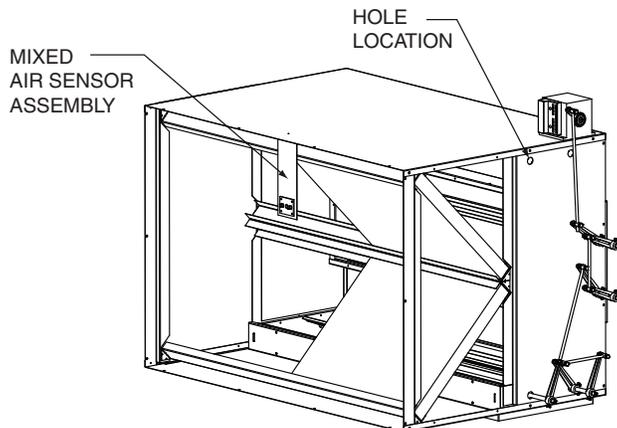

Fig. 54 — Mixed Air Sensor Installation
2. Place mixed air sensor assembly in airstream as shown in Fig. 54.
4. Drill or knockout $\frac{1}{2}$ in. hole into top of mixing box close to actuator as shown in Fig. 54.